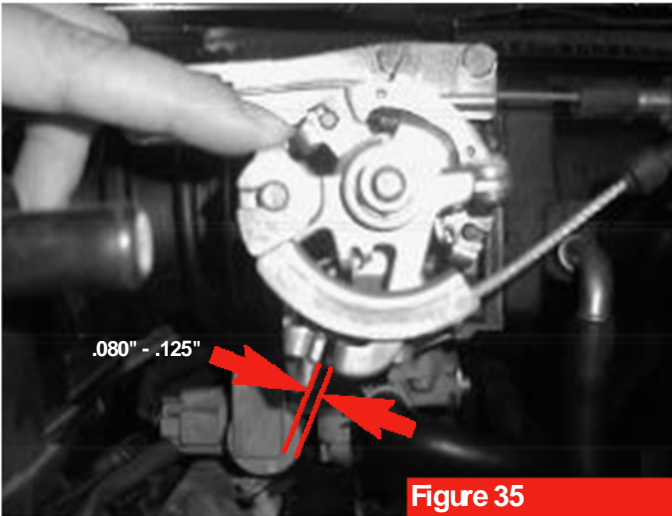
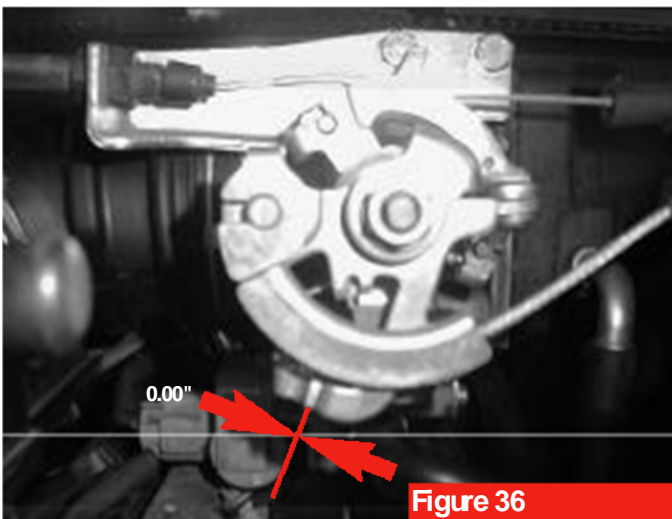

Figure 35
Figure 36
11. Proper throttle cable tension can be accomplished by viewing Figures 35 & 36. With alight but firm pressure you will be able to hear a distinctive "click" when pressing down (see figure 35). Release finger pressure and you should hear another "click" as bracket meets bracket (figure 36).